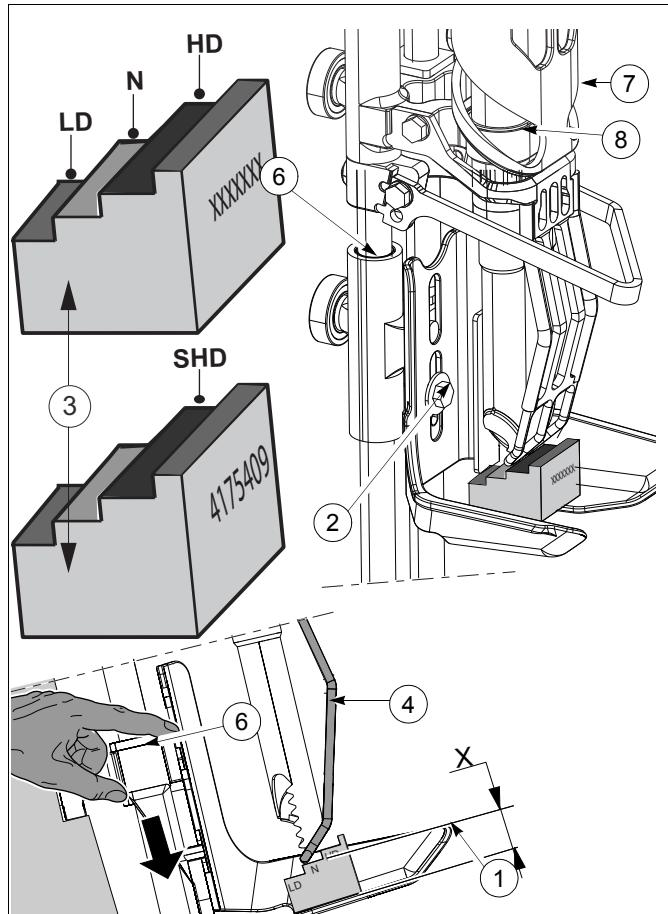
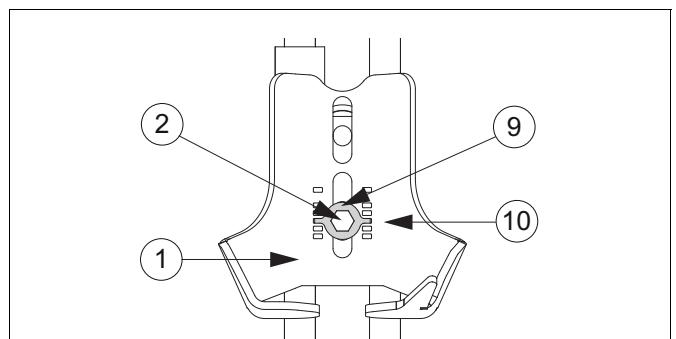
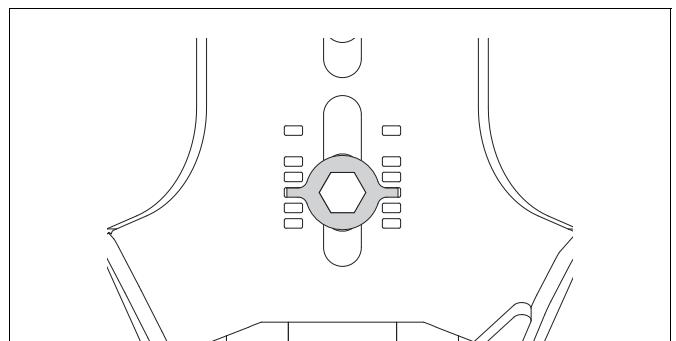
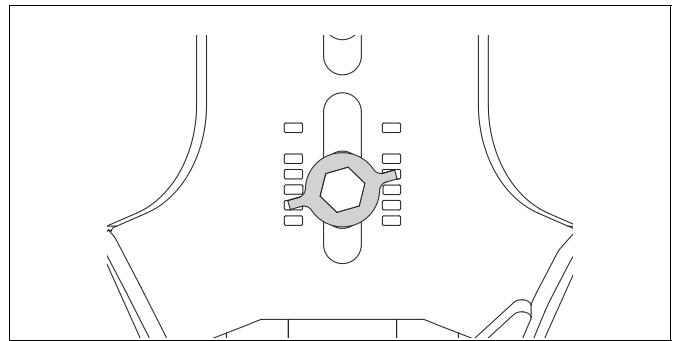

fig. 30 Adjust shoulder lifter
fig. 31 Adjust shoulder lifter with optional Neck Skin Cutting Module
fig. 32 Step adjustment
fig. 33 Half step adjustment
See fig. 30.
3. Place the adjustment tool 3 as shown in fig. 30.
See fig. 30 and tab. 1.
4. Place the adjustment tool **3** as shown in fig. 30.
When a full step adjustment (see fig. 32) is outside the  $\pm 2$  mm tolerance, use a half step adjustment (see fig. 33).
- See fig. 30, fig. 31, fig. 32, fig. 33 and tab. 2.